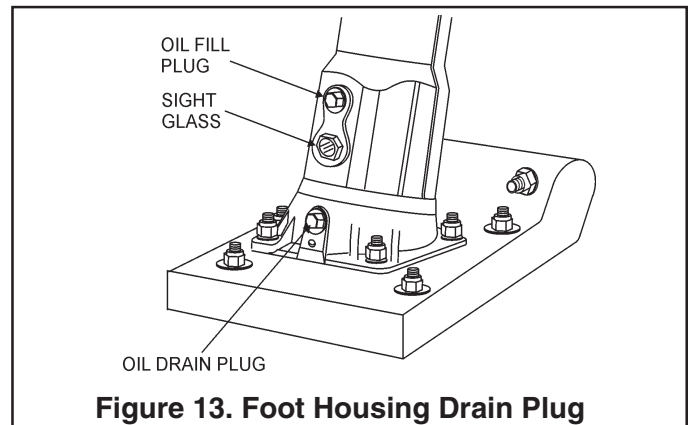

Figure 13. Foot Housing Drain Plug
- Drain oil reservoir on foot housing (Figure 13). Refill with approximately 1.7 pt. (800cc) of 10W-30 motor oil. Oil should be midway in sight glass. Break in oil should be changed after first 50 hours.